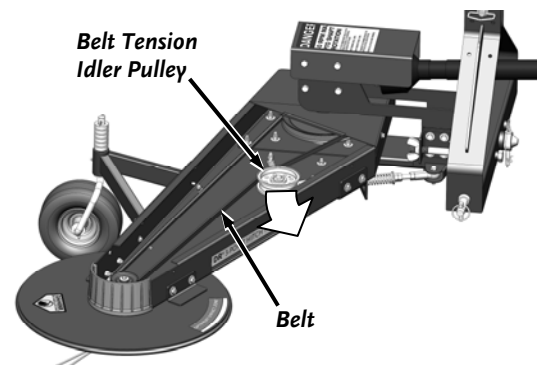

Figure 37
3. Pull the Belt Tension Idler Pulley away from the Belt and slide the Belt off the Idler Pulley (**Figure 37**).